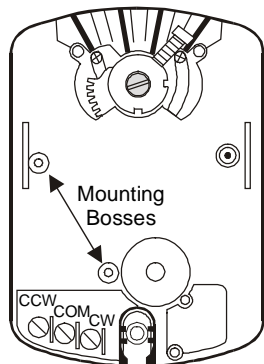

Figure 1: Two Mounting Bosses
1. Align the two mounting holes located on the DPT-2015 with the mounting bosses located on the M9104 or M9106. (See Figure 1.)